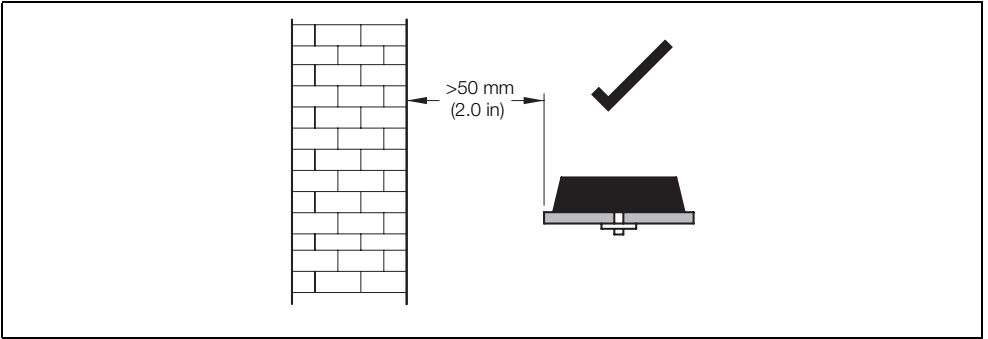

Fig. 2.23 GSM Antenna Installation
- Do not mount the antenna closer than 50 mm to any solid wall or surface – see Fig. 2.23.